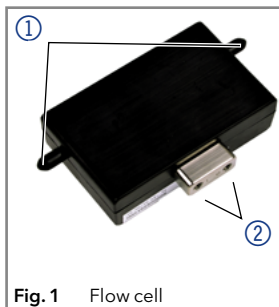

Fig. 1 Flow cell
2. Remove the hoods from the light inlet and outlet ① (see Fig. 1).
3. Remove the hole plugs from the inlet and outlet cartridge ②.